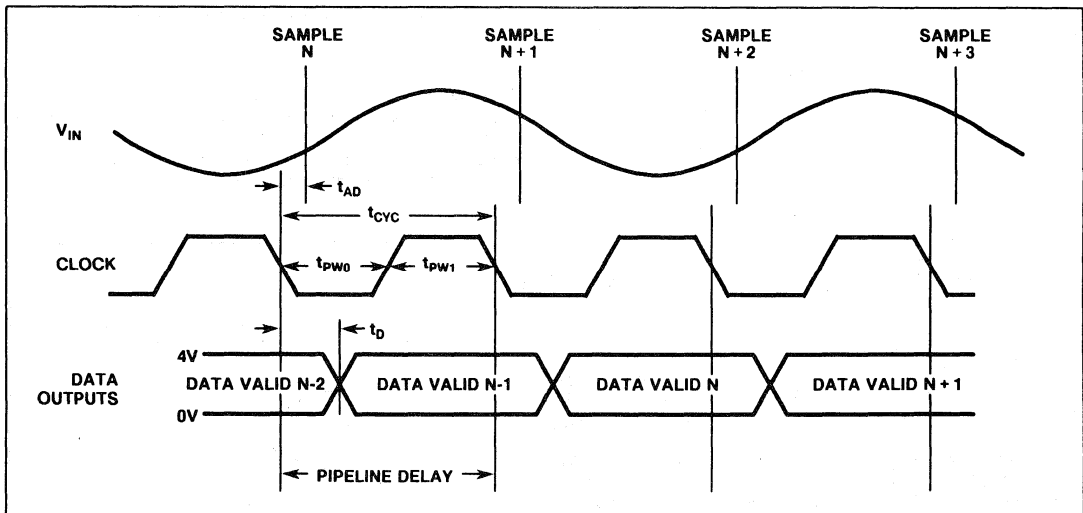

Fig.7 Timing diagram
**TIMING (Fig. 7)**
The analog input is sampled by the SP973T8 approximately 3ns ( $t_{AD}$ ) after the falling edge of the clock. Due to the pipelined operation of the device, a further one clock cycle is required to produce the output data. As shown in Fig. 7, the output has a good data valid time, enabling the data to be latched at both the rising and falling edges of the clock.